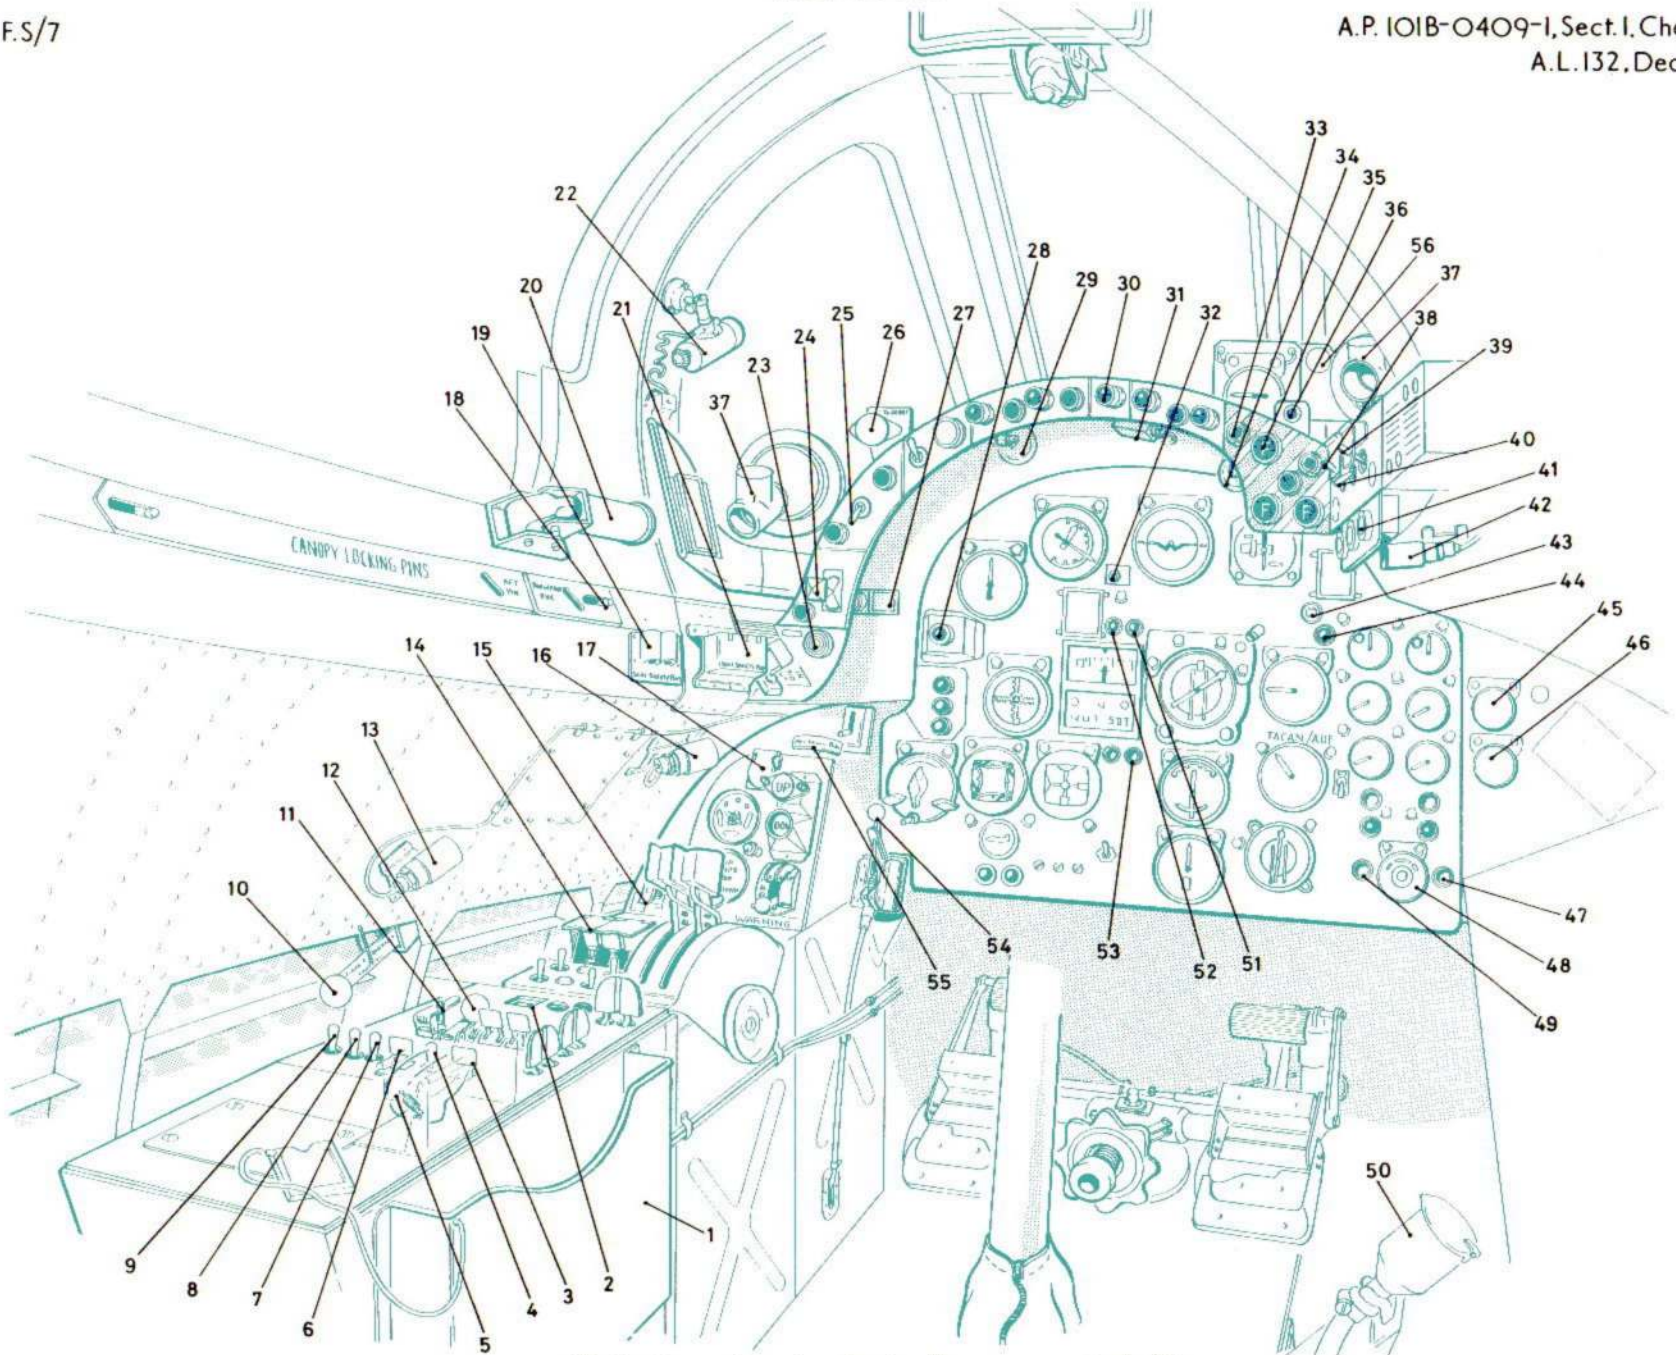

Fig.5 Operational and miscellaneous controls (I) ◀MOD 4990 & 5007▶
Key to Fig. 5 - OPERATIONAL AND MISCELLANEOUS CONTROLS (1)